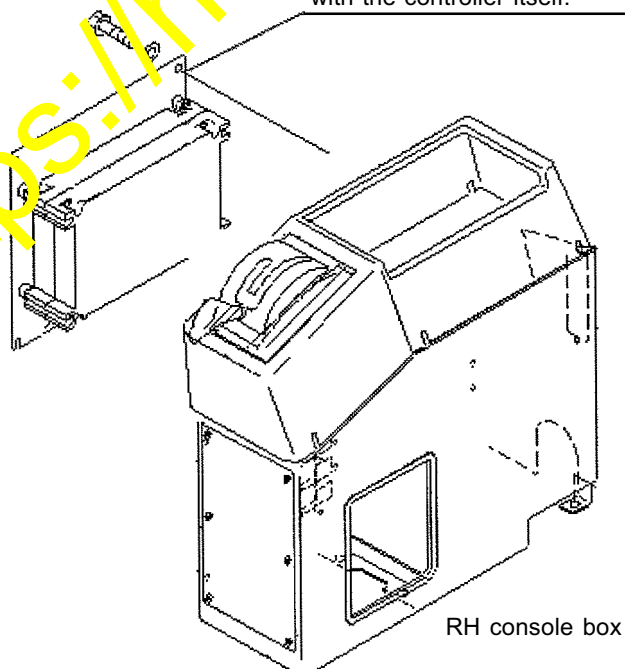

Fig. 2
2) Removing the RH console box cover (Refer to Fig. 2.)